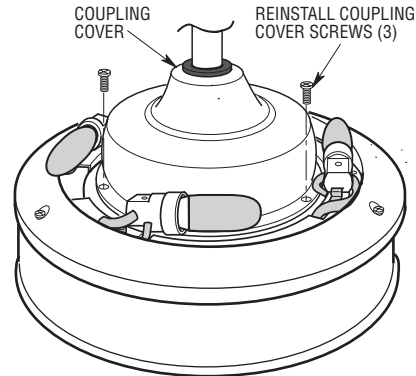

Figure 7
7. Reinstall the three coupling cover screws to secure the coupling cover (Figure 7).